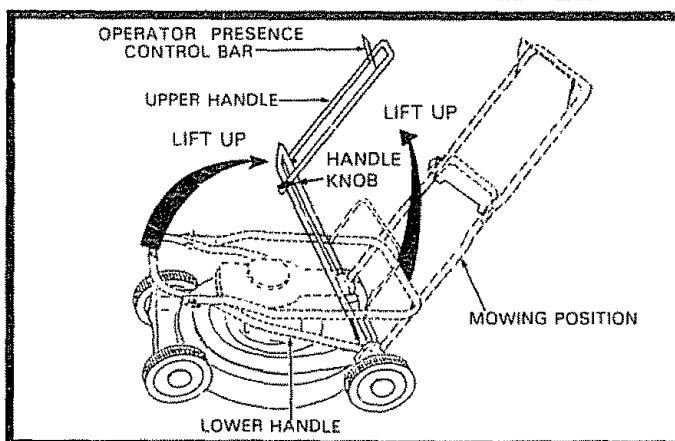

FIG. 1
- Raise Handles until Lower Handle section locks into place in mowing position (See Fig. 1).
- Raise Upper Handle section into place on Lower Handle and tighten one (1) Handle Knob.